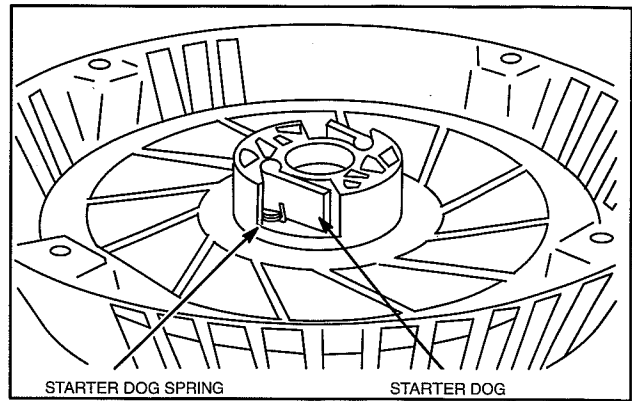

Fig. 24 – Install Dogs And Springs – Early Style
1. Install dogs and dog springs in pulley, Fig. 24.